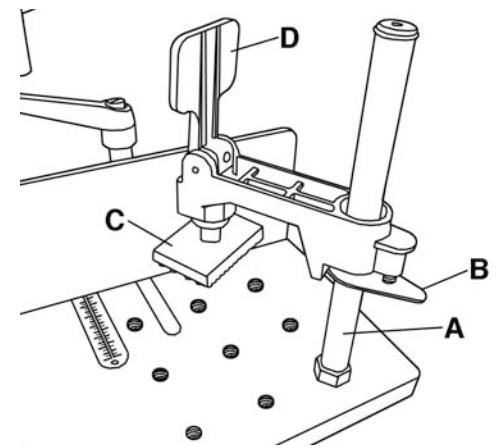

Figure 13
This mortiser comes with two table hold downs, as shown in Fig.13. Each can be mounted in 9 different positions on both sides of the sliding table, depending on the size of the workpiece. Each table hold down gets bolted to the sliding table using the supplied 17mm open ended wrench.
To secure a workpiece to the sliding table, bolt the hown down shaft (A) Fig.13 as close to the workpiece as possible. Pull the spring loaded body clamp (B) upwards to adjust the height and position of the hold down plate (C). Position the hold down plate so that it just rests on top of your workpiece, then lower the latch (D) to further lower the hold down plate to firmly secure your workpiece to the table.